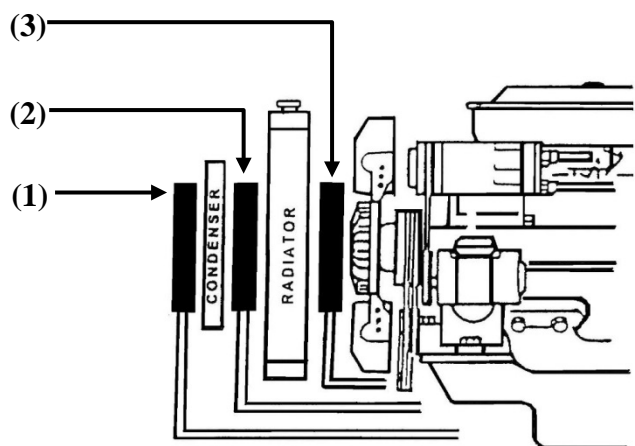

Figure 2 – Mounting options for the core.
- Firstly, place your Davies Craig Transmission Oil Cooler Core into the desired position as outlined in **(Figure 2)** to ensure you have the appropriate space to permanently mount the core as shown.